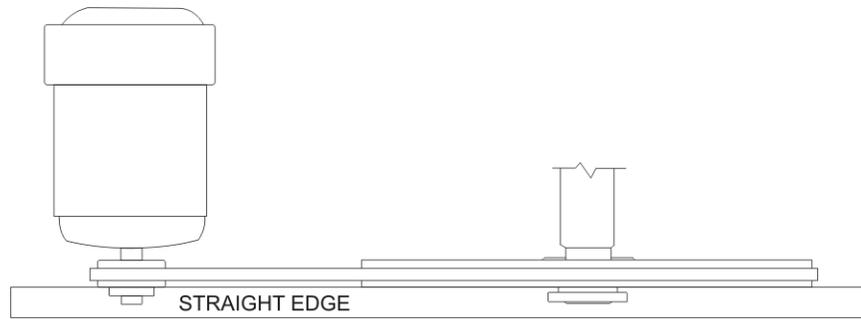

Figure 6.1: Proper Pulley Alignment
- (c) Verify that V-belts are properly aligned by checking pulley alignment. Place a straight-edge across both pulley faces. The straight edge should make contact with the pulleys in four places. See figure 6.1.